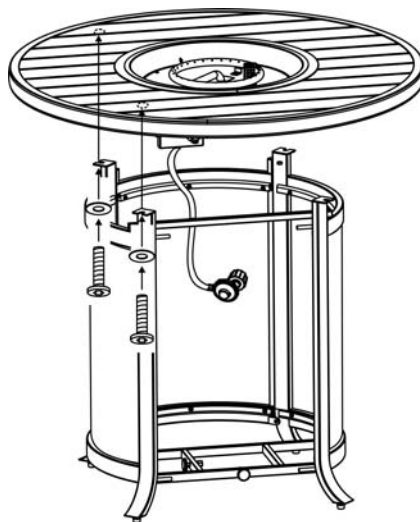

Figure 5
5. With the help of another person, carefully place the table top onto the firepit base. After making any necessary adjustments to the alignment of the table top and the assembled base, use four 1/4"x20 mm bolts and Ø20xØ6.5x2.0 mm washers as shown in Figure 5. Guide the bolts through the holes in the base brackets, into the pre drilled holes in the table top. **Do not tighten completely.**